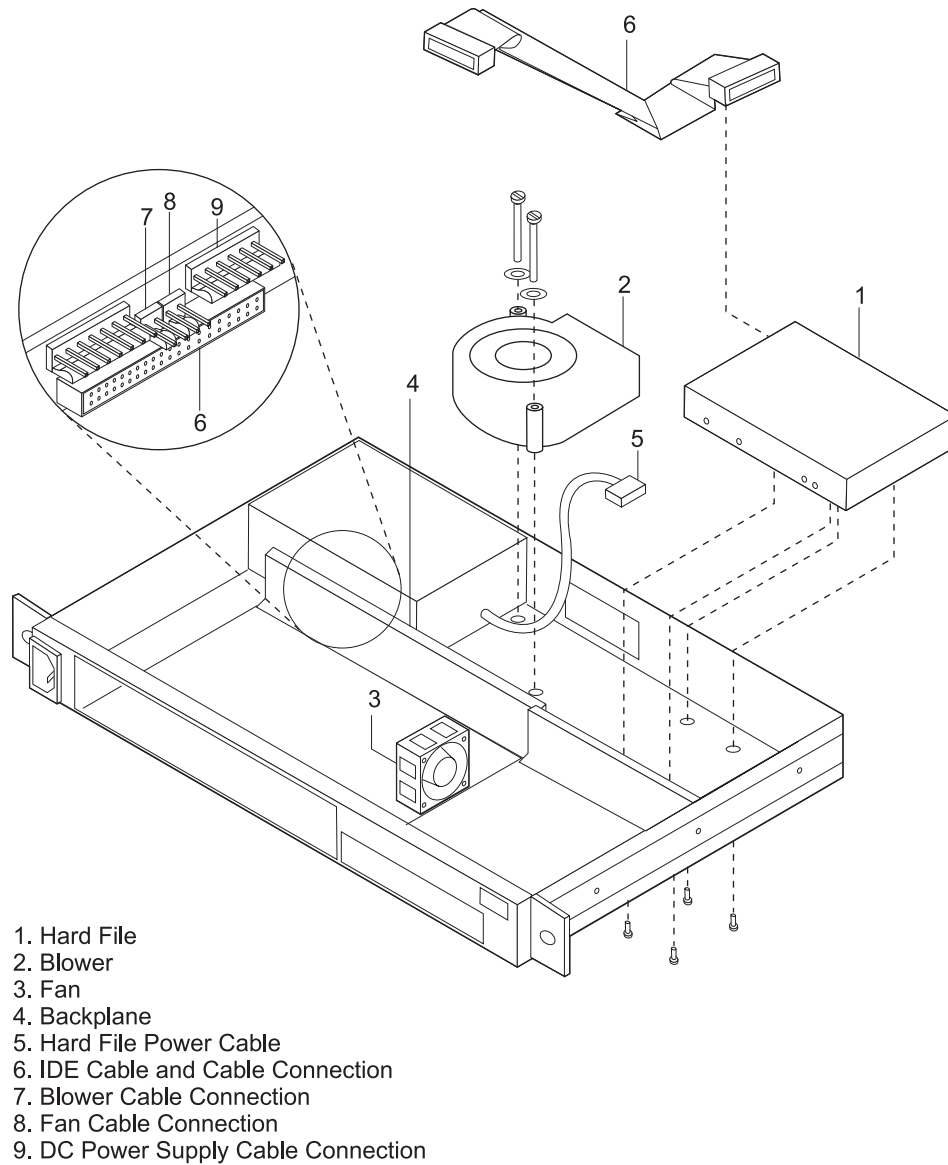

Figure 2-8. Model 1xx Chassis with a Hard File
8. Connect the hard file IDE (flat ribbon) cable to the backplane and route as shown in Figure 2-8 on page 2-15.